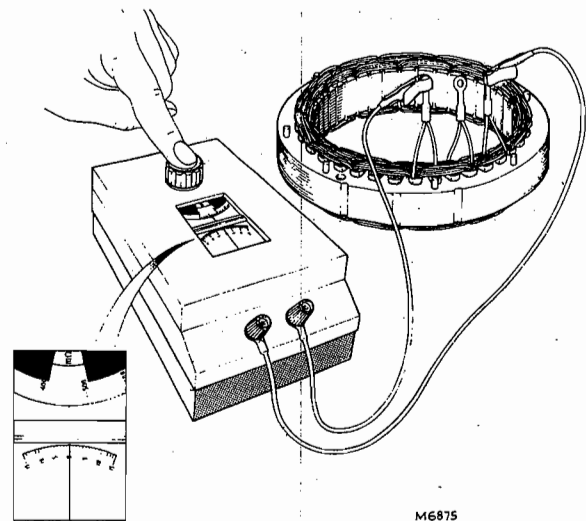

FIG. 19. CHECKING CONTINUITY
1. Check the stator windings to ensure the wires are not burned, broken or insulation damaged, see Fig. 18. If the windings appear to be in good condition, use an air hose to blow out any dirt or carbon dust. Clean the stator with a suitable solvent and dry thoroughly. Check each A.C. terminal to each of the other two terminals using a bridge tester; they should all make a complete circuit and a reading of 0.454 to 0.494 ohms should be recorded, see Fig. 19.